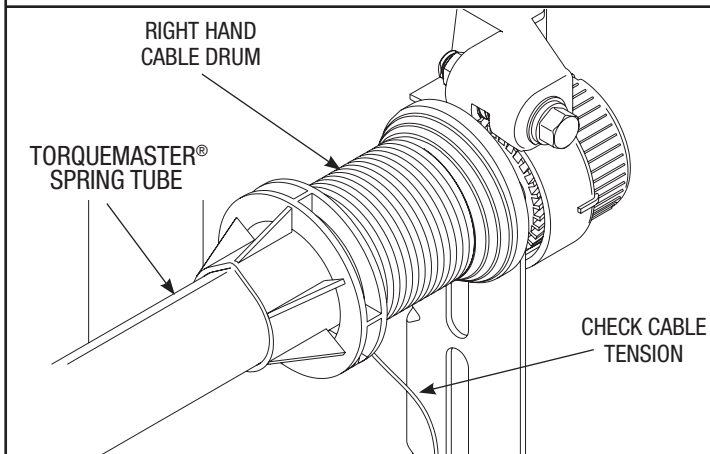

Fig. 3
**Step 3:** Verify that spring tension has been released by pulling the counterbalance cable on the right hand cable drum away from the header (Fig. 3). If spring tension has been released, the cable will be loose. In addition, the TorqueMaster® Spring Tube